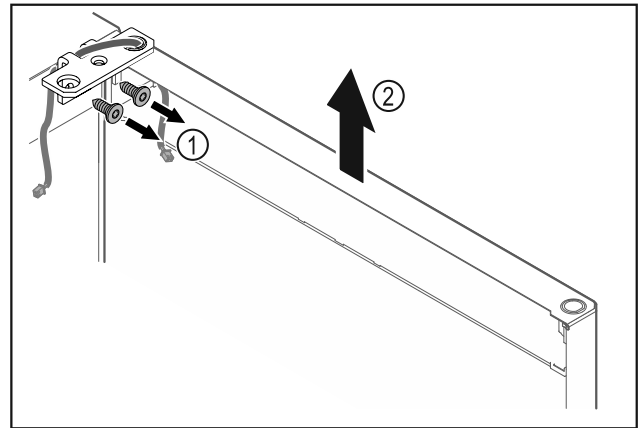

Fig. 15
- ▶ Unscrew the hinge Fig. 15 (1).
- ▶ Lift the door with the hinge straight up by Fig. 15 (2) roughly 200 mm and take it off.